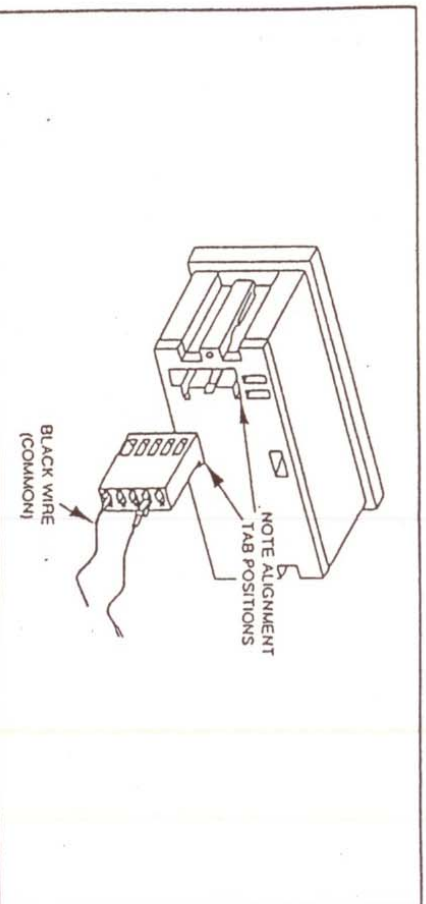

Figure 4-2. Connector Installation
2. To remove a terminal from the terminal block, insert a small screw driver into the slot on the side of the terminal housing and gently press on the locking tang while pulling gently on the wire. A variety of connections arrangements are possible using the supplied connector and wires. The black common wire is installed in the terminal housing at the factory and will always be used in this position. **DO NOT INSTALL WIRES FOR FUNCTIONS THAT ARE NOT USED.** Install connector per Figure 4-2.